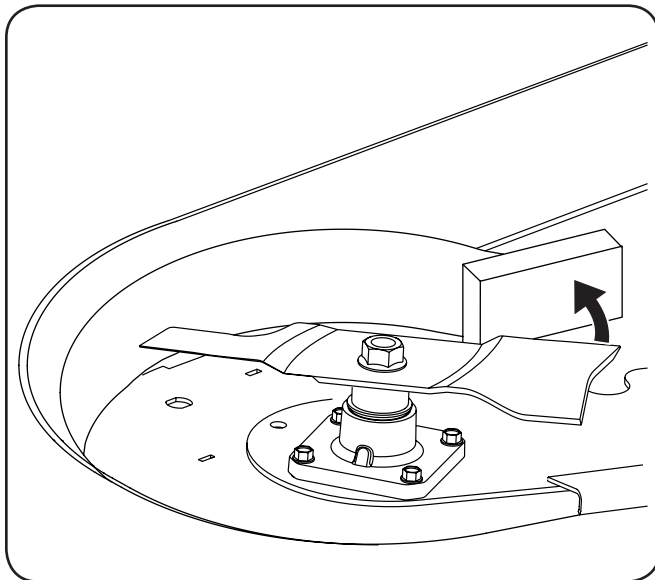

Figure 7-8
3. Wrap a rag around one end of the blade and grasp it to prevent it from turning, or secure the blade by placing a block of wood between the blade and the deck housing. See Fig. 7-8.